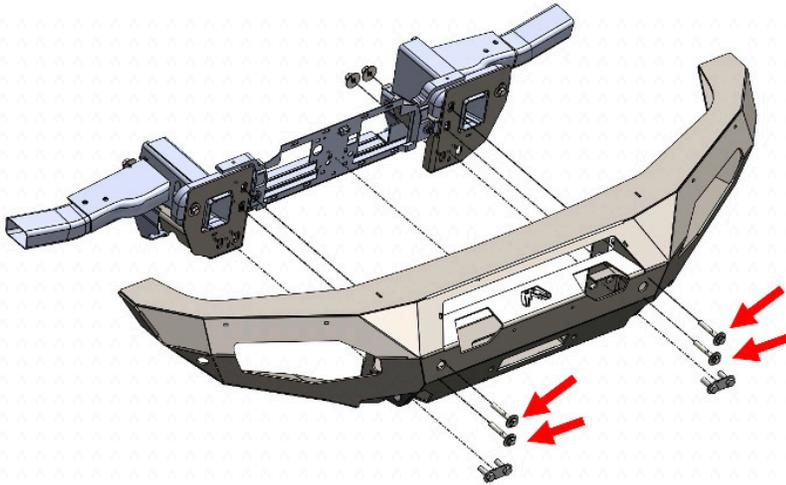

Figure 18
6. Using the remaining four 7/16" USS flat washers on OEM frame horn bolts and a 15mm socket wrench with swiveling extension, install the bumper (PN: 22509) to the frame horns of the vehicle. With the bumper positioned on the vehicle with a 3/8" gap to the valance tighten the four bolts in the frame horns. (Figure 18)